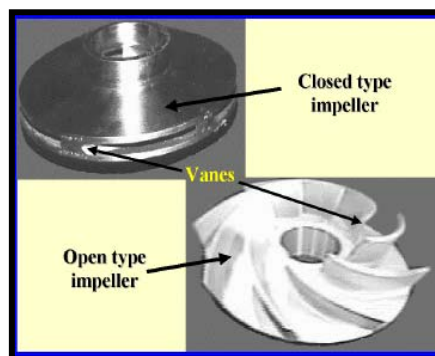

Figure 10. Closed and Open Impeller Types (Sahdev)
- Closed impellers have vanes enclosed by shrouds (= covers) on both sides (Figure 10). They are generally used for water pumps as the vanes totally enclose the water. This prevents the water from moving from the delivery side to the suction side, which would reduce the pump efficiency. In order to separate the discharge chamber from the suction chamber, a running joint is necessary between the impeller and pump casing. This joint is provided by wearing rings, which are mounted either over extended portion of impeller shroud or inside the cylindrical surface of pump casing. A disadvantage of closed impellers is the higher risk of blockage.
- Open and semi-open impellers (Figure 10) are less likely to clog. But to avoid clogging through internal re-circulation, the volute or back-plate of the pump must be manually adjusted to get the proper impeller setting.